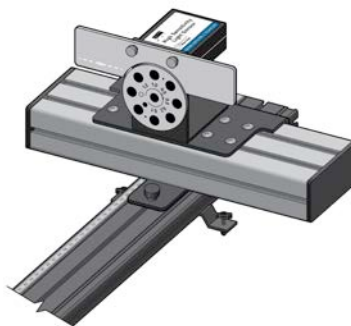

Figure 2 Light sensor assembly
5. Slide the light sensor assembly so that the pattern from the beam falls on the screen to one side or the other of the aperture disk (see Figure 2). Observe features of the pattern and record your observations in your lab notebook.